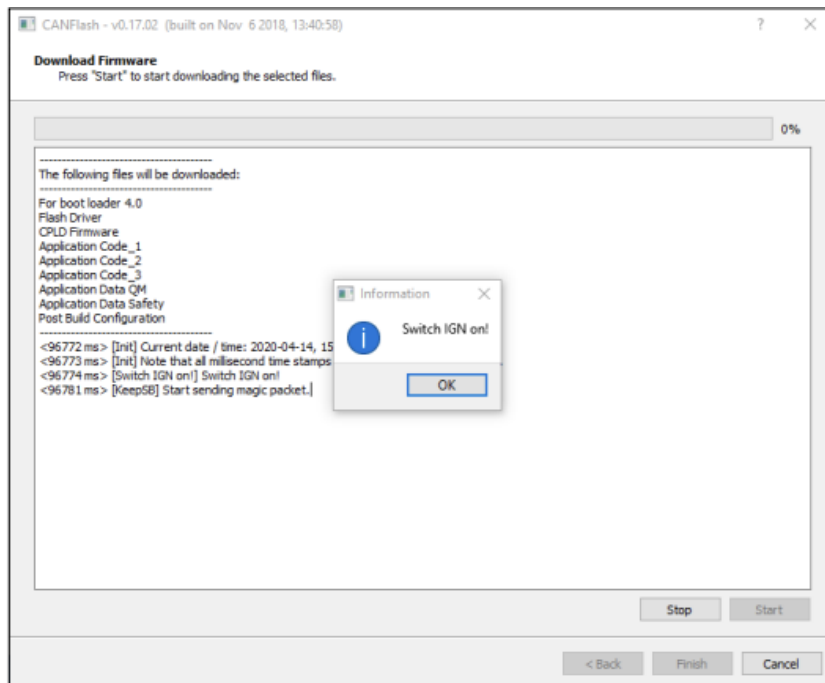

Figure 15: Flip switch on 1144289 when CANFlash shows Switch IGN on!
43. Flip the ignition switch on 1144289 ON when CANFlash says Switch IGN on! (see figure 15). In part 1 you do not need to turn the Master Run switch ON.